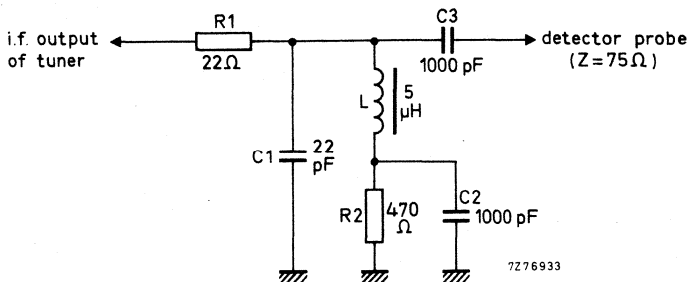

Fig. 10.
I.F. output of the tuner terminated with a modified circuit of Fig. 10, i.e. a 100 pF capacitor is connected in parallel with C1 and R1 is short-circuited; tuning voltage is 15 V.
\* I.F. output of the tuner terminated with the circuit shown in Fig. 10; tuning voltage is 15 V.
The tuner needs normal supply voltages and a tuning voltage of 15 V; the i.f. output should be loaded with the circuit shown in Fig. 10.
The i.f. output of the tuner should be terminated with the RC-circuit given in Fig. 10.